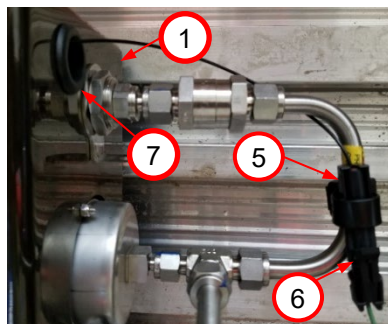

Figure 3.
6. Disconnect chassis harness driveaway protection (DAP) connector (6) from fuel fill panel (1) dust cap DAP connector (5). *Figure 3*
8. Gently pull dust cap DAP connector through grommet (7) on fill panel faceplate. *Figure 3*
4. Insert dust cap DAP circuit connector (6) through grommet (7) on fill panel faceplate. *Figures 3 and 4*
6. Connect chassis harness driveaway protection (DAP) connector (6) to fuel fill panel (1) dust cap DAP connector (5). *Figure 3*